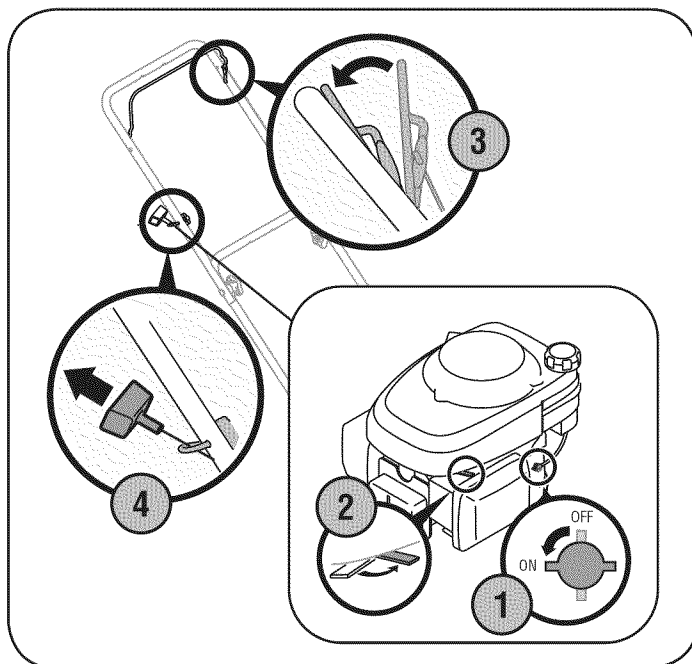

Figure 11
1. Place the fuel valve lever (1) found on the left side of the engine into the ON (OPEN) position. See Figure 11.
2. Move the choke lever (2) all the way backward into the choke position.
3. Standing behind the mower, squeeze the blade control (3) against upper handle. The choke will now begin to slowly return to the off choke position. Therefore, quickly move onto step four below.
4. Holding blade control and upper handle together firmly, grasp recoil starter handle (4) and pull rope out with a rapid, continuous, full arm stroke. See Figure 11. Keeping a firm grip on the starter handle let the rope rewind slowly. Repeat until engine cranks. Let the rope rewind each time slowly.
1. Turn the fuel valve (Fig. 11) to the OFF position to reduce the possibility of fuel leakage.